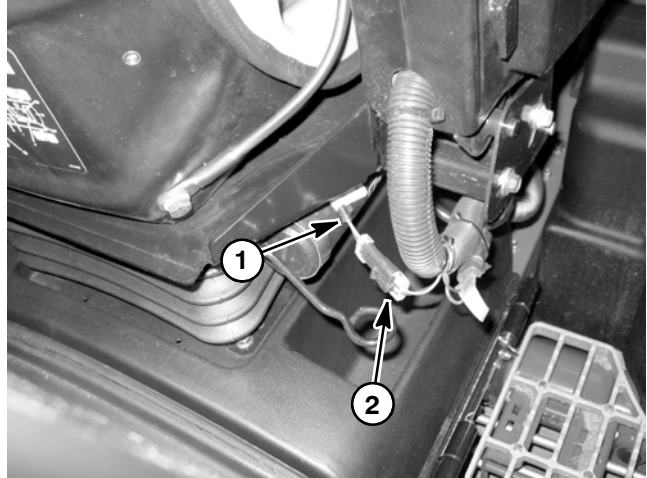

Figure 43
2. Disconnect wire harness connector from the seat switch electrical lead near the manual tube under the operator seat (Fig. 43).